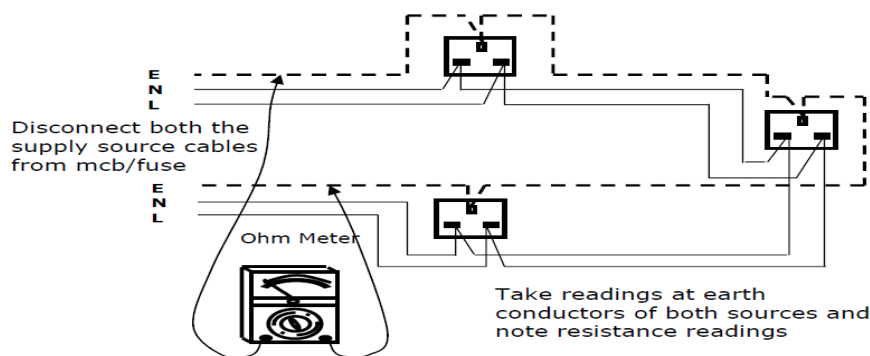

Figure 1.72 Final Ring Circuit Conductor Continuity Test
- ✓ Connect the test leads as in the Figure 1.72 (EE);